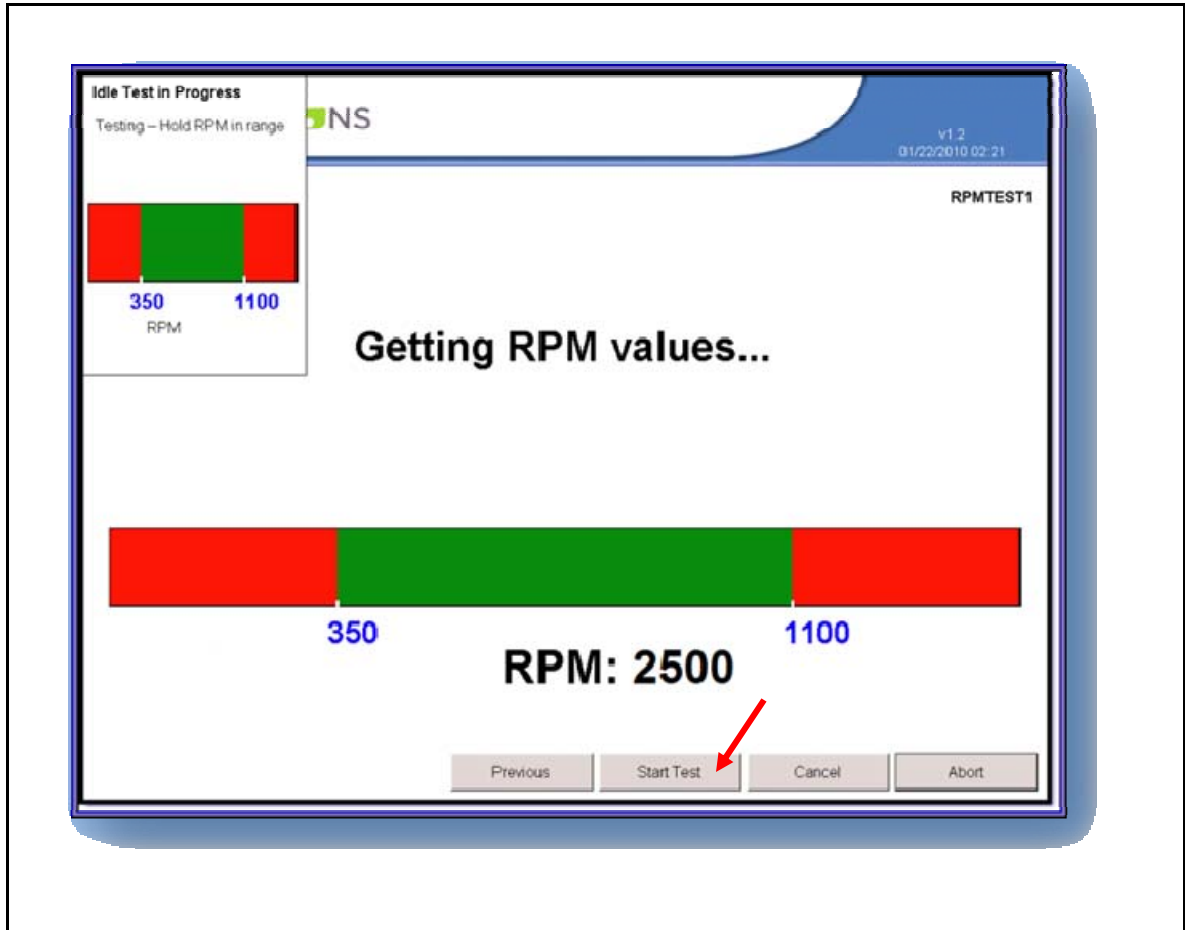

Figure 4-5: Select “Start Test”
- Return vehicle to idle and begin test by selection “**Start Test**” button shown at bottom of (Fig 4-5 below)